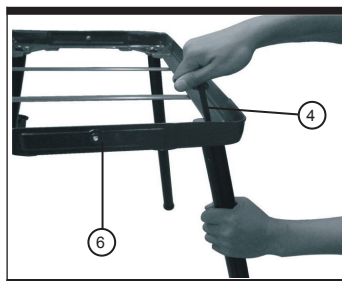

Fig 3
2. Tighten the screw with the allen key ④ (See fig3)